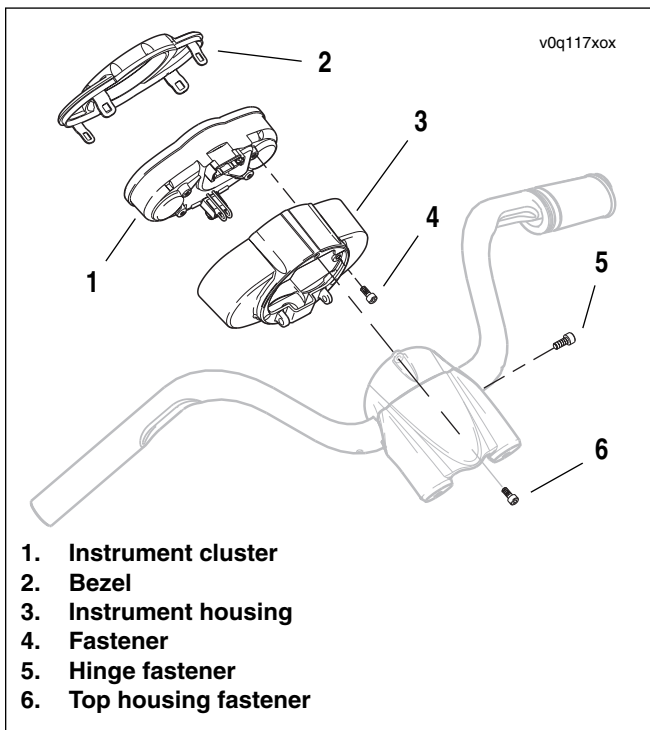

Figure 8-57. VRSCD Instrument Cluster
2. See Figure 8-57. Remove fastener at top of instrument housing.
5. See Figure 8-57. Loosen and remove hinge fastener and slide housing off of hinge peg.
1. See Figure 8-57. Assemble bezel, instrument cluster and housing. Install and tighten fasteners to 1.3-1.9 Nm (12-16 **in-lbs**).